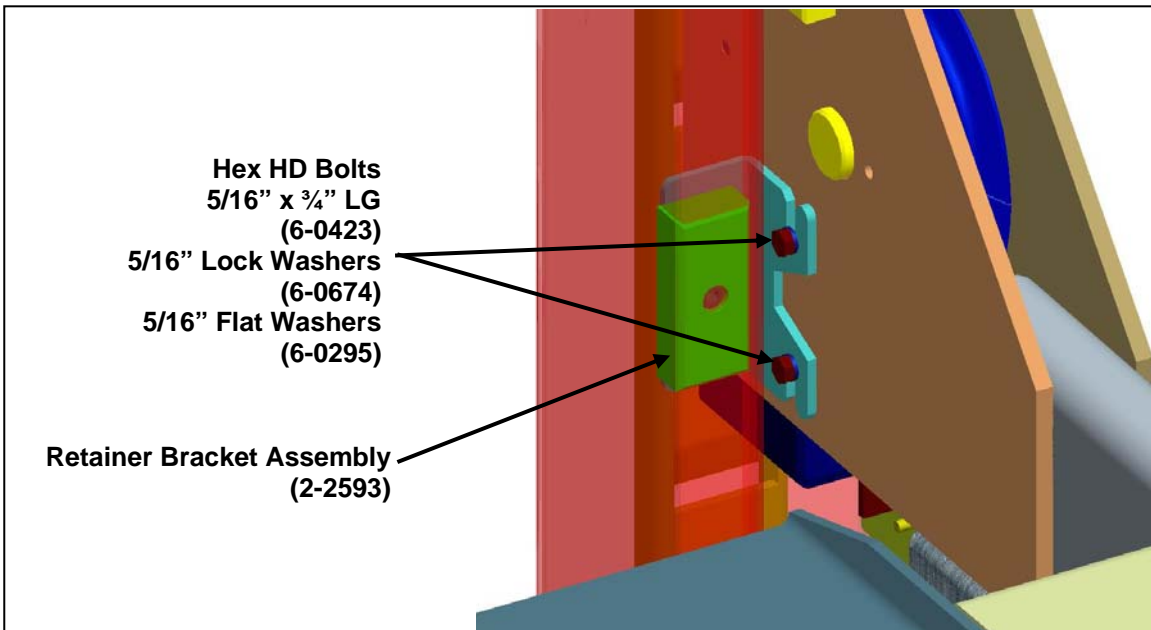

Figure 9. Retainer bracket installation
- Install the second 5/16”x ¾” long hex head bolt and 5/16” lock washer and flat washer through the lower slot and into the bottom mounting hole in the crossmember. Tighten both of the bolts. See Figure 9.